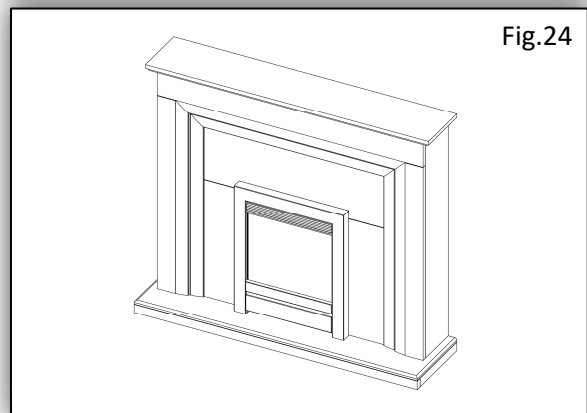

Fig.24
45. This completes the installation of the Suite with IQFX 16". Fig.24.